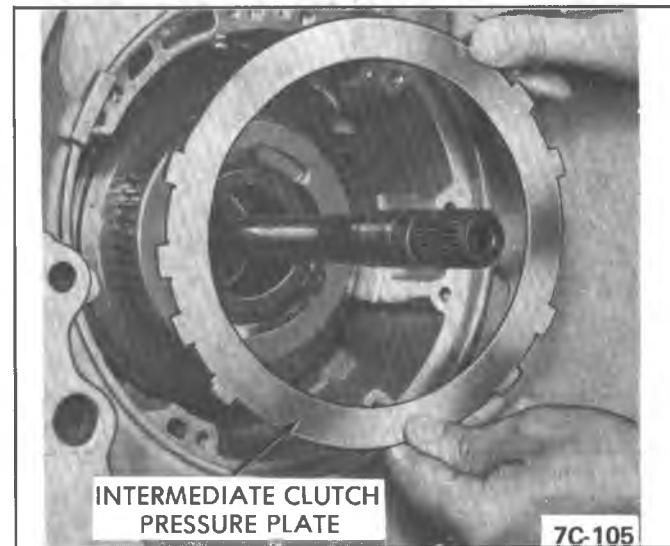

Figure 7A3-130 Intermediate Clutch Pressure Plate
2. Oil and install lined and steel intermediate clutch plates, starting with a lined plate and alternating steel and lined. See Figure 7A3-131.